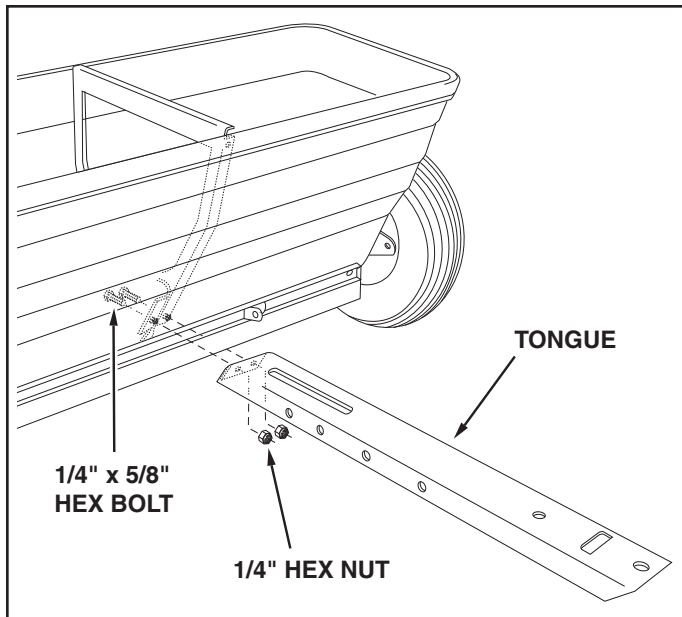

FIGURE 1
2. Assemble the tongue to the hopper as shown in figure 1 using two 1/4" x 5/8" hex bolts and 1/4" nylock nuts. **Do not tighten yet.**